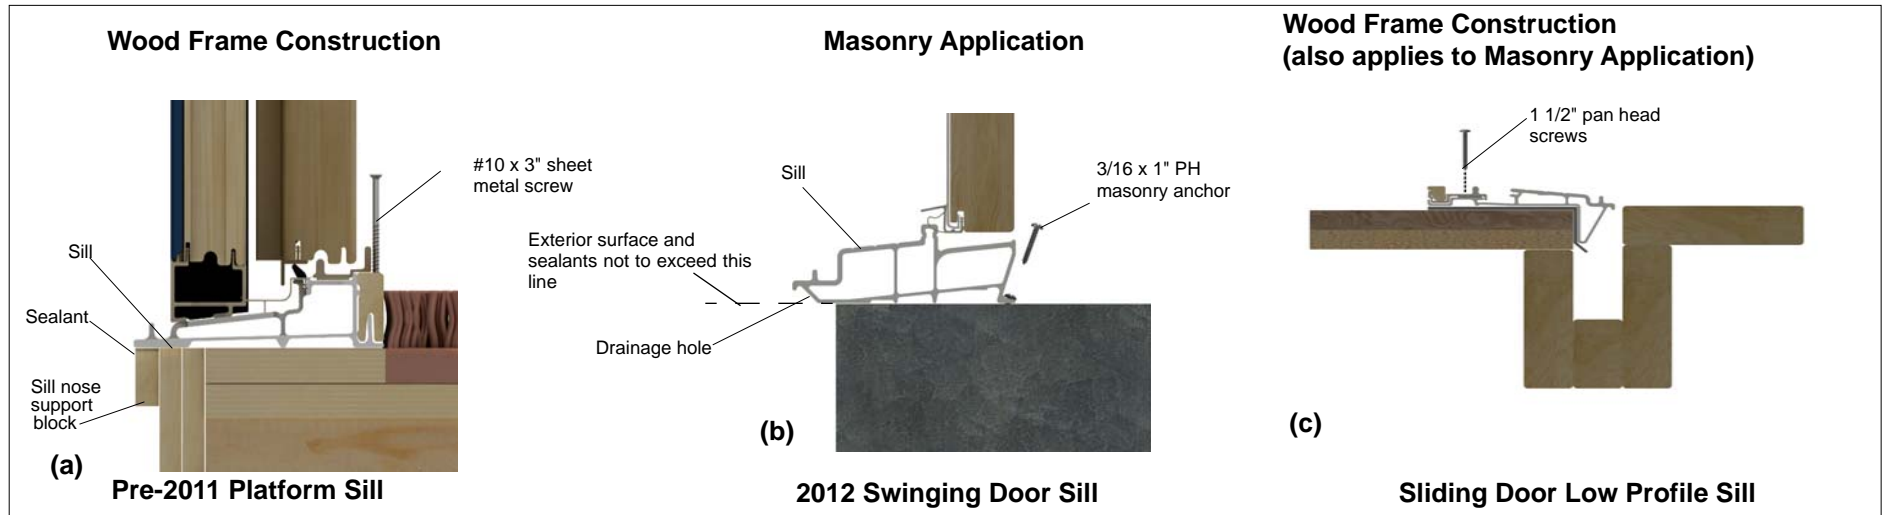

Figure 6 Securing the door.
- For sliding and swinging pre-2011 sills, figure 6(a): Install a sill nose support block under the sill. Fabricate from treated lumber and attach to underside of the sill with construction adhesive. Nail the block to the sheathing to hold it in place. Apply generous amount of sealant along the underside of the sill as shown.
- Securing the 2012 Swinging Door sill, figure 6(b): Secure the sill to the subfloor with #8 x 1" pan head screws through the pre-drilled holes in the sill lip. In masonry applications, pre-drill 3/16" x 1" deep holes through the pre-drilled holes in the sill lip and into the concrete. Fasten with #8 x 1" pan head concrete anchors.